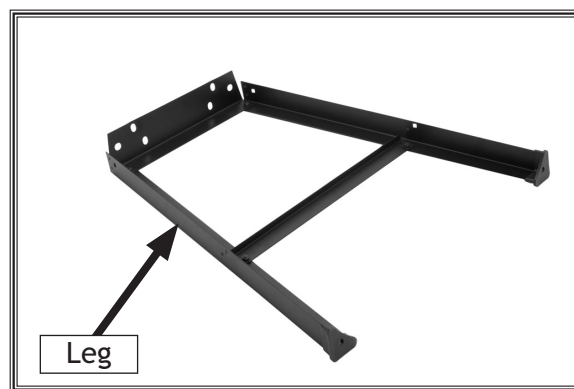

Figure 4. A completed leg assembly.
2. Secure a second leg to the long top and bottom brackets with two $\frac{5}{16}$ "-18 x $\frac{1}{2}$ " carriage bolts, flat washers and hex nuts as shown in **Figure 4**.